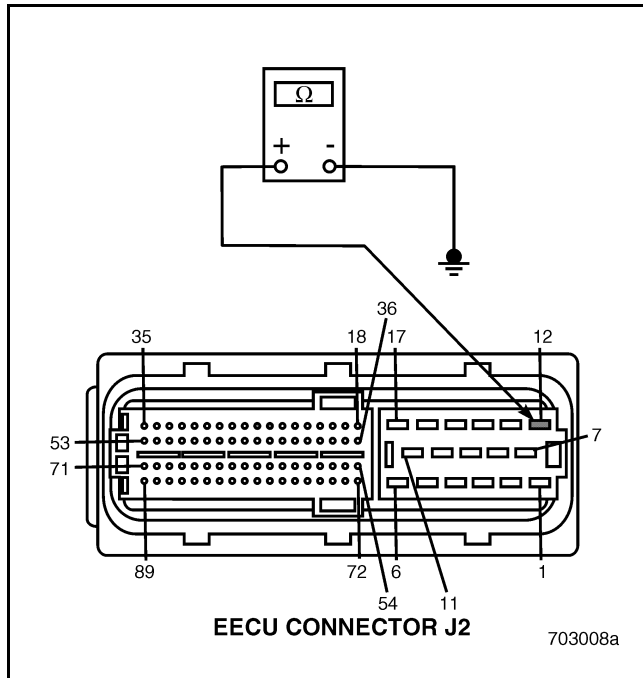

Figure 736
4. Check for continuity between EECU harness connector J2, pin 12 and a good ground (see Figure 736).